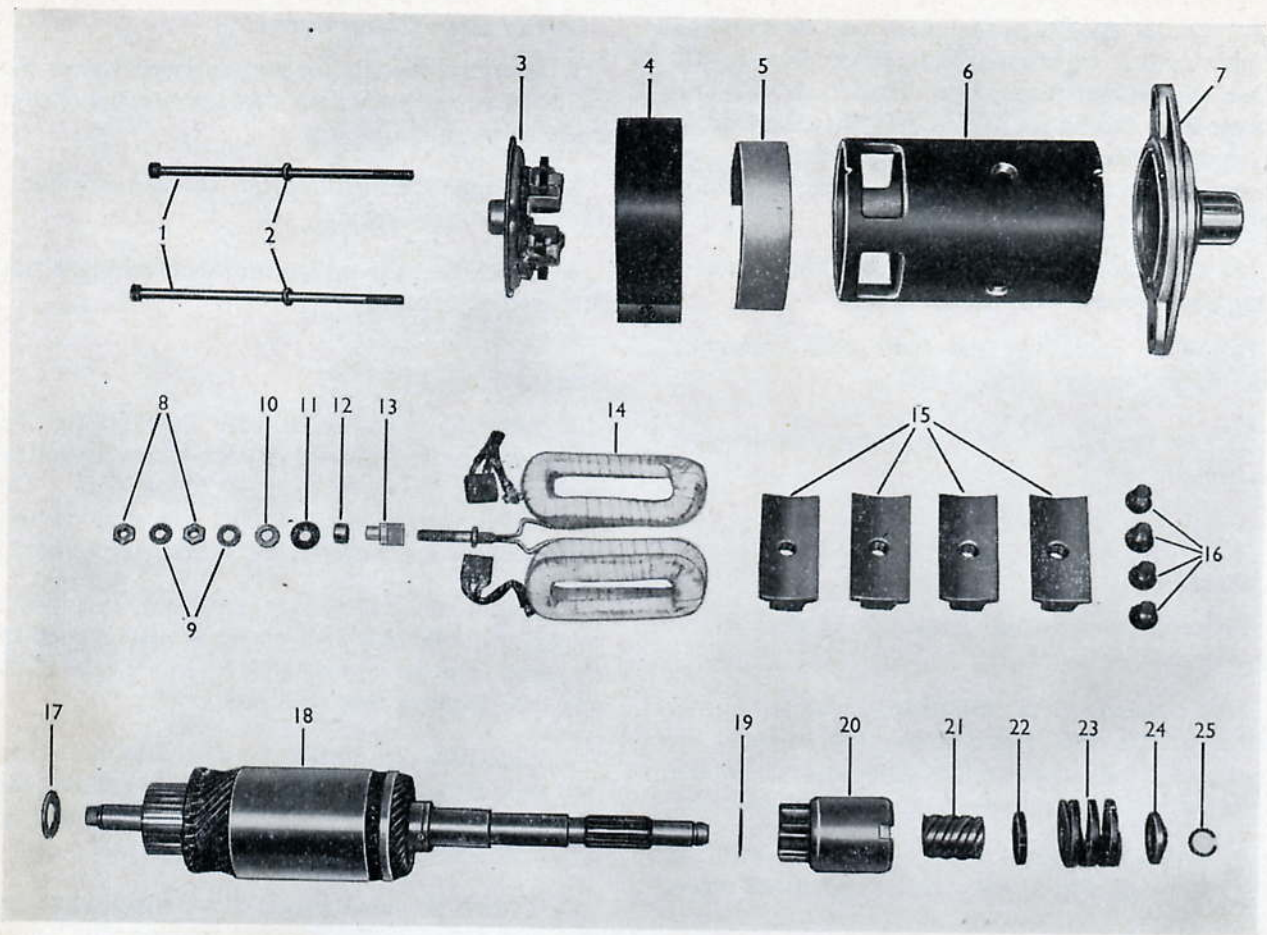

Fig. Q.9. Exploded view of starter
3. Assemble the insulating sleeve to the terminal post (Fig. Q.9) and on the M45G starter the insulating bush to the end bracket. The flange of the bush must be on the inside.